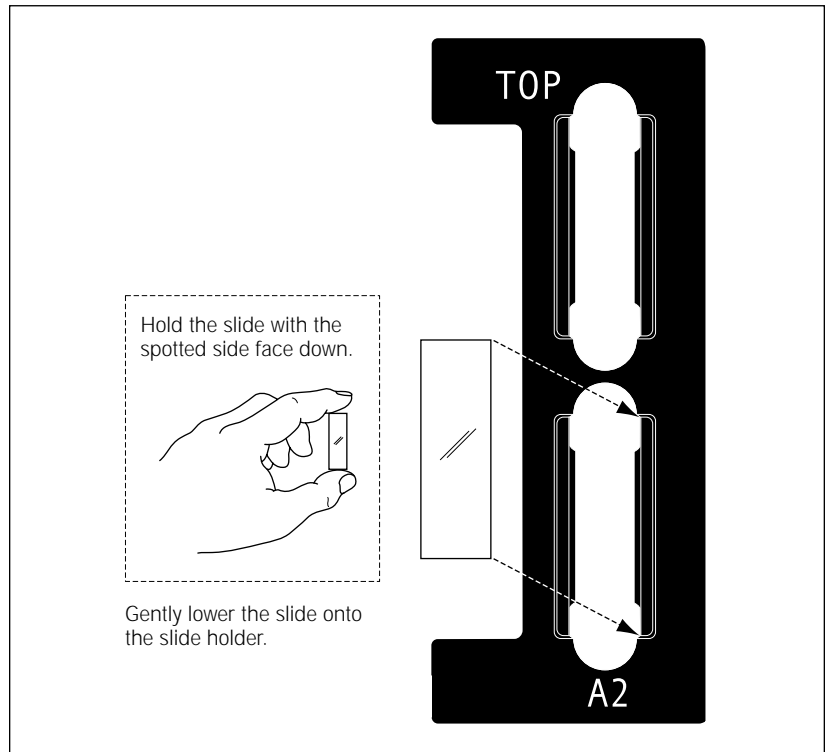

Figure 8-5. Positioning the slides in the slide holder.
4. Holding the slide with the spotted side face down, carefully lower the slide into the first well on the slide holder as figure 8-5 shows. (If you are scanning only one slide, positioning the slide in the first well minimizes the scan time.)